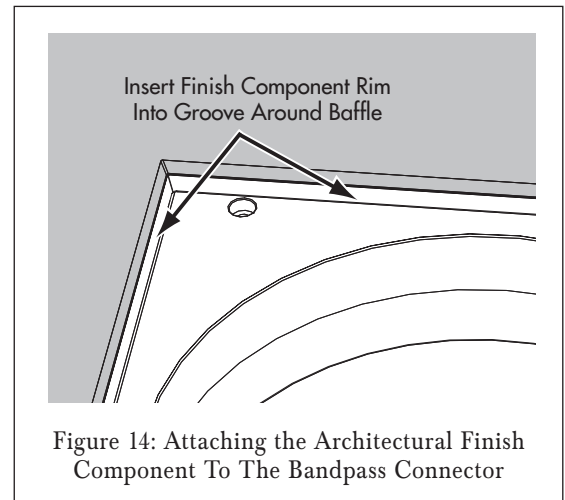

Figure 14: Attaching the Architectural Finish Component To The Bandpass Connector
1. The foam-tape covered rim on the back of the Finish Component inserts into the groove around the outer edge of the Bandpass Connector. See Figure 14.